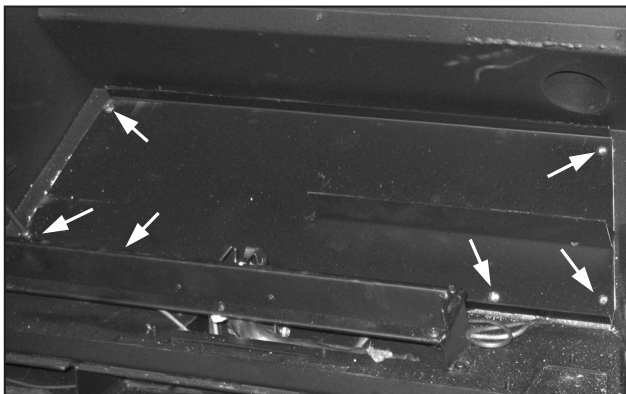
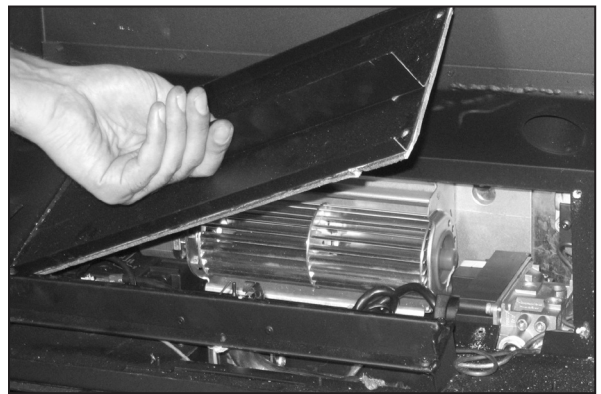

Figure 23: Screws Holding Valve Cover in Place.
Figure 24: Removing Valve Cover.
4. Using a T-20 screwdriver remove the six (6) screws that hold the valve cover in place (pointed out in Figure 23). Pick the valve cover up then out of the firebox (see Figure 24).